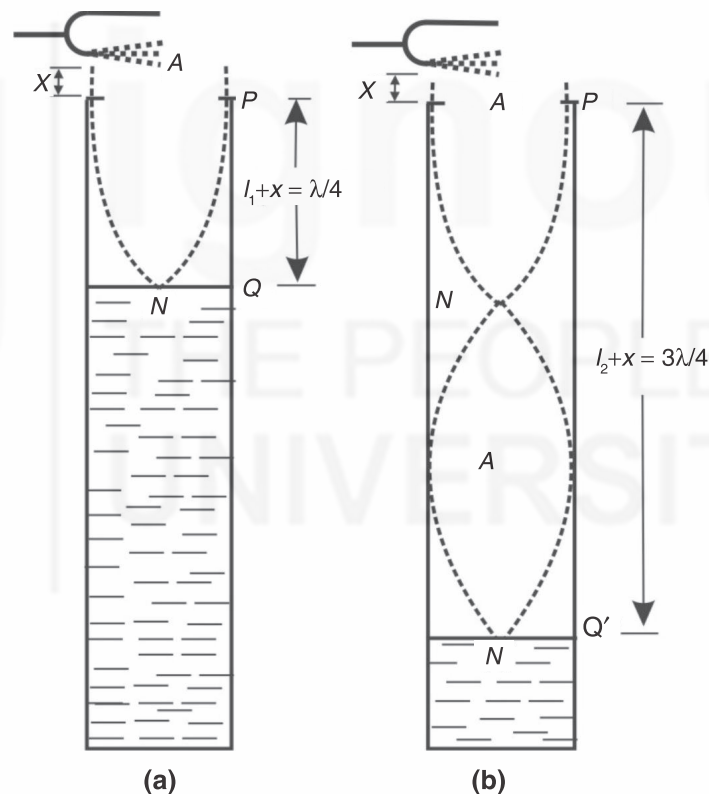

Fig. 4.4: Formation of standing waves in glass tube between P and Q .
2. Hold this vibrating tuning fork horizontally with its prongs over the upper end P which acts as an antinode (A) (see Fig. 4.4). A wave travels down the tube and is reflected from the end Q which is closed due to a water column. At position Q , there is a node, which is a zero amplitude point. Standing (stationary) waves are formed in the tube due to interference of these waves and resonance occurs under certain conditions about which you have learnt in Unit 3 of CLT-104. As a result, the amplitude of sound increases.